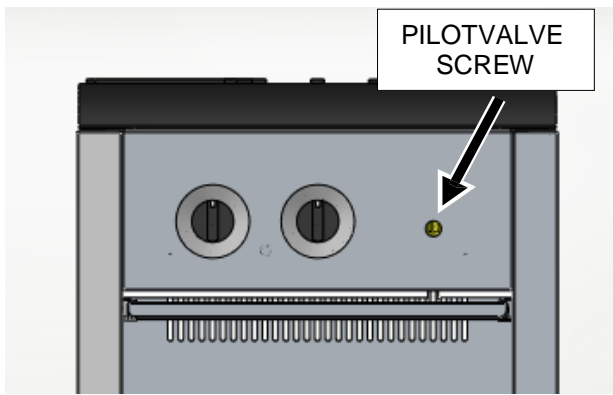
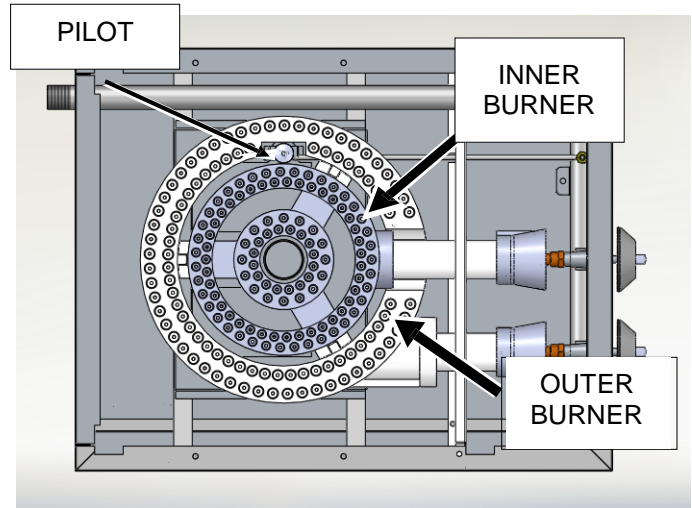

Fig.5
Fig.6
The burner is in two sections, controlled by two heavy duty infinite control valves. The center "Star" section (Fig. 6) is on a separate burner with an input of 40,000 BTU/hr. It is controlled by the right burner valve knob. The outer circle of the burner (Fig. 6) is the other separate 40,000 BTU/hr input burner, controlled by the left burner valve knob.
3. Light standing pilot with a lit taper (see Fig 6). Adjust pilot to ¼" high flame, if necessary, by turning pilot valve adjusting screw (see Fig. 5) counterclockwise to increase or clockwise to decrease flame.